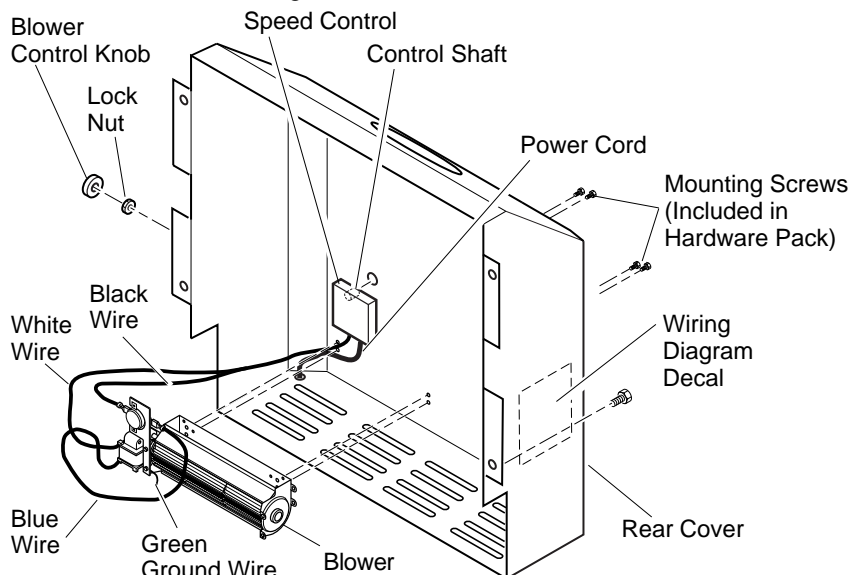

Figure 16 - Installing Optional Blower Accessory (Thermostat Model CDA3610T Shown)
1. Align the holes in the top mounting tabs of blower with holes in wall of rear cover (see Figure 16). Using the 4 screws provided, mount blower and tighten screws securely.
3. Place speed control on back wall inside of rear cover and push the plastic control shaft through opening (see Figure 16).
4. While supporting speed control, secure control shaft with lock nut by pushing and turning lock nut with pliers clockwise until tight against the side of rear cover. Place control knob provided onto shaft (see Figure 16).